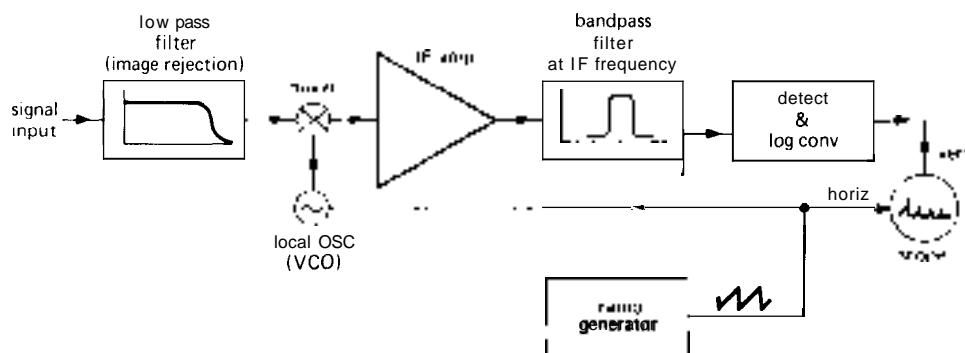

Figure 15.43. Swept-LO spectrum analyzer.
Spectrum analyzers come in two basic varieties: swept-tuned and real-time. Swept analyzers are the most common variety, and they work as shown in Figure 15.43. What you have is basically a superheterodyne receiver (see Section 13.16), with a local oscillator (LO) that can be swept by an internally generated ramp waveform. As the LO is swept through its range of frequencies, different input frequencies are successively mixed to pass through the IF amplifier and filter. For example, suppose you have a spectrum analyzer with an IF of **200MHz** and an LO
chirp/Z transform. In this method a dispersive filter (delay time proportional to frequency) replaces the IF **bandpass** filter in the swept-LO analyzer (Fig. 15.43). By matching the LO sweep rate to the filter's dispersion, you get an output that superficially resembles the swept analyzer output, namely a linear scan of frequency versus time during each sweep. However, in contrast to the swept-LO analyzer, this scheme gathers signals from the entire band of frequencies continuously. Another interesting technique for real-time spectral analysis is the Bragg cell (or "acousto-optic spectrometer"), in which the IF signal is used to generate acoustic waves in a transparent crystal. These deformations diffract a laser beam, generating a real-time display of the frequency spectrum as light intensity versus position. An array of photodetectors completes the analyzer output. Bragg-cell spectrometers are used in radio astronomy. A typical unit has  $2\text{GHz}$  instantaneous bandwidth, analyzed into 16,000 channels of  $125\text{kHz}$  bandwidth each. When choosing a spectrum analyzer type, be sure to consider trade-offs among bandwidth, resolution, linearity, and dynamic range.